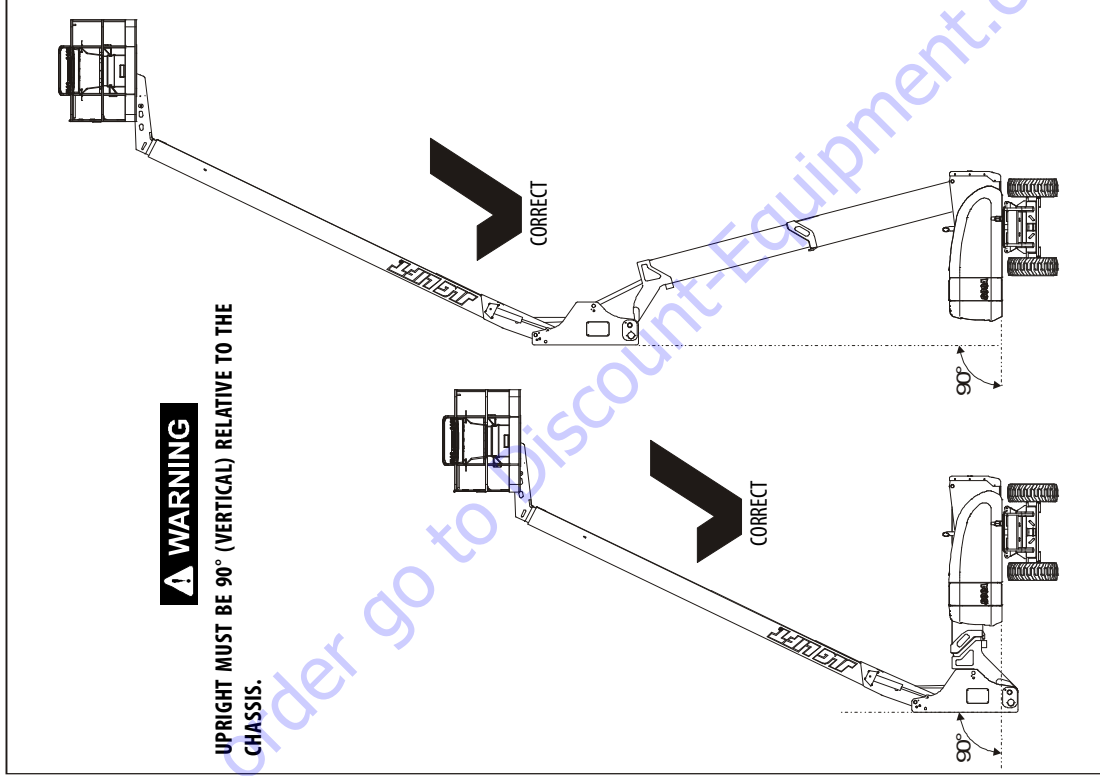
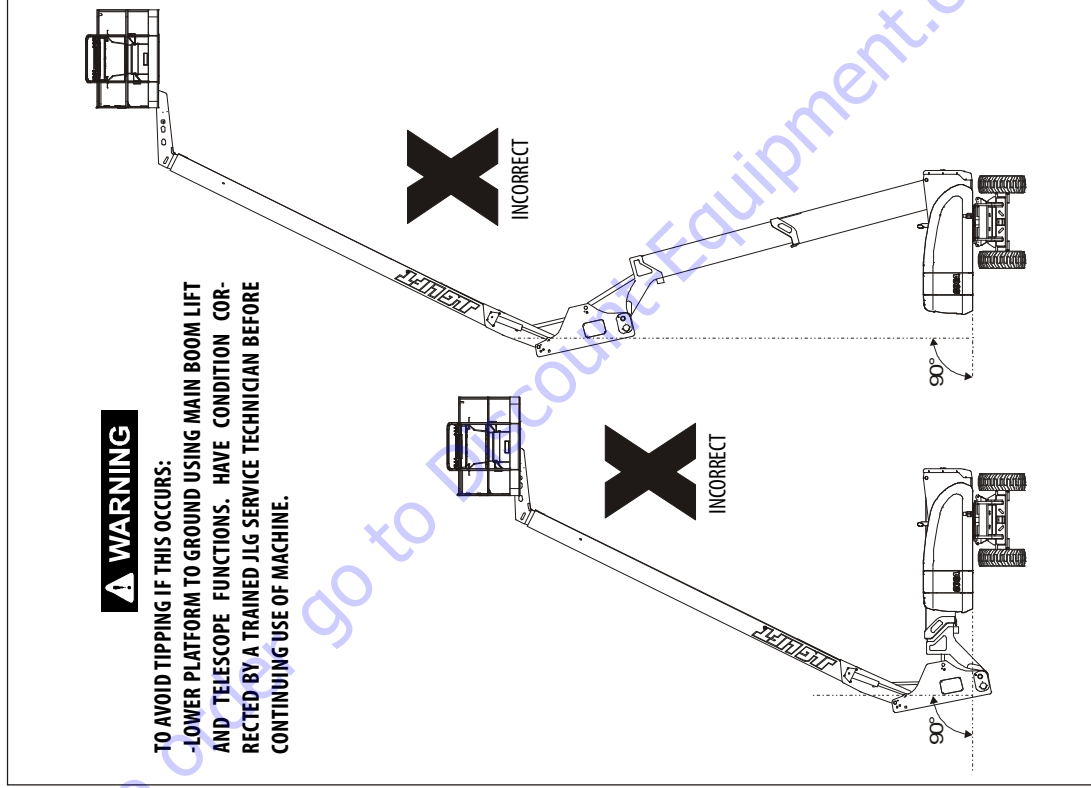

Figure 2-3. Boom Upright Positioning - Correct
Figure 2-4. Boom Upright Positioning - Incorrect
- c. Raise the tower base boom to approximately 40 degrees, then lower the tower boom back to the below horizontal position. While raising and lowering the tower boom assembly, observe the position of the upright. Ensure that the upright remains vertical relative to the chassis. Refer to Figure 2-3, and Figure 2-4.